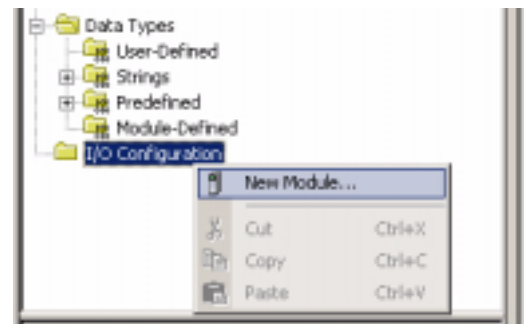

Figure 6.1 Defining A Bridge Module
- 1) Insert a bridge module into the I/O Configuration tree. As shown in figure 6.1 on the right, right click on the I/O Configuration folder and select "New Module..." in the pop-up menu.